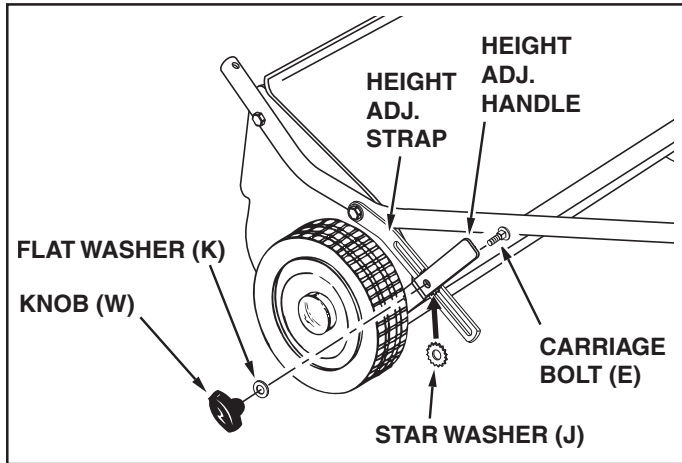

FIGURE 7
- Place the height adjustment strap to the **inside** of the height adjustment handle. Place the star washer (J) **between** the height adjustment strap and the height adjustment handle. Insert the carriage bolt (E) through the strap, the star washer and the handle. Assemble the flat washer (K) and the plastic knob (W) onto the end of the bolt and tighten. See figure 7.